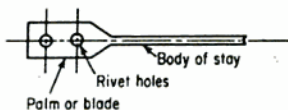

Fig. 9-12. Elements of a riveted diagonal stay.
3. What is the construction on the ends of the stay where it is fastened to the shell or head: riveted, pins, split palms, or blades (crowfoot type)? See Fig. 9-12.